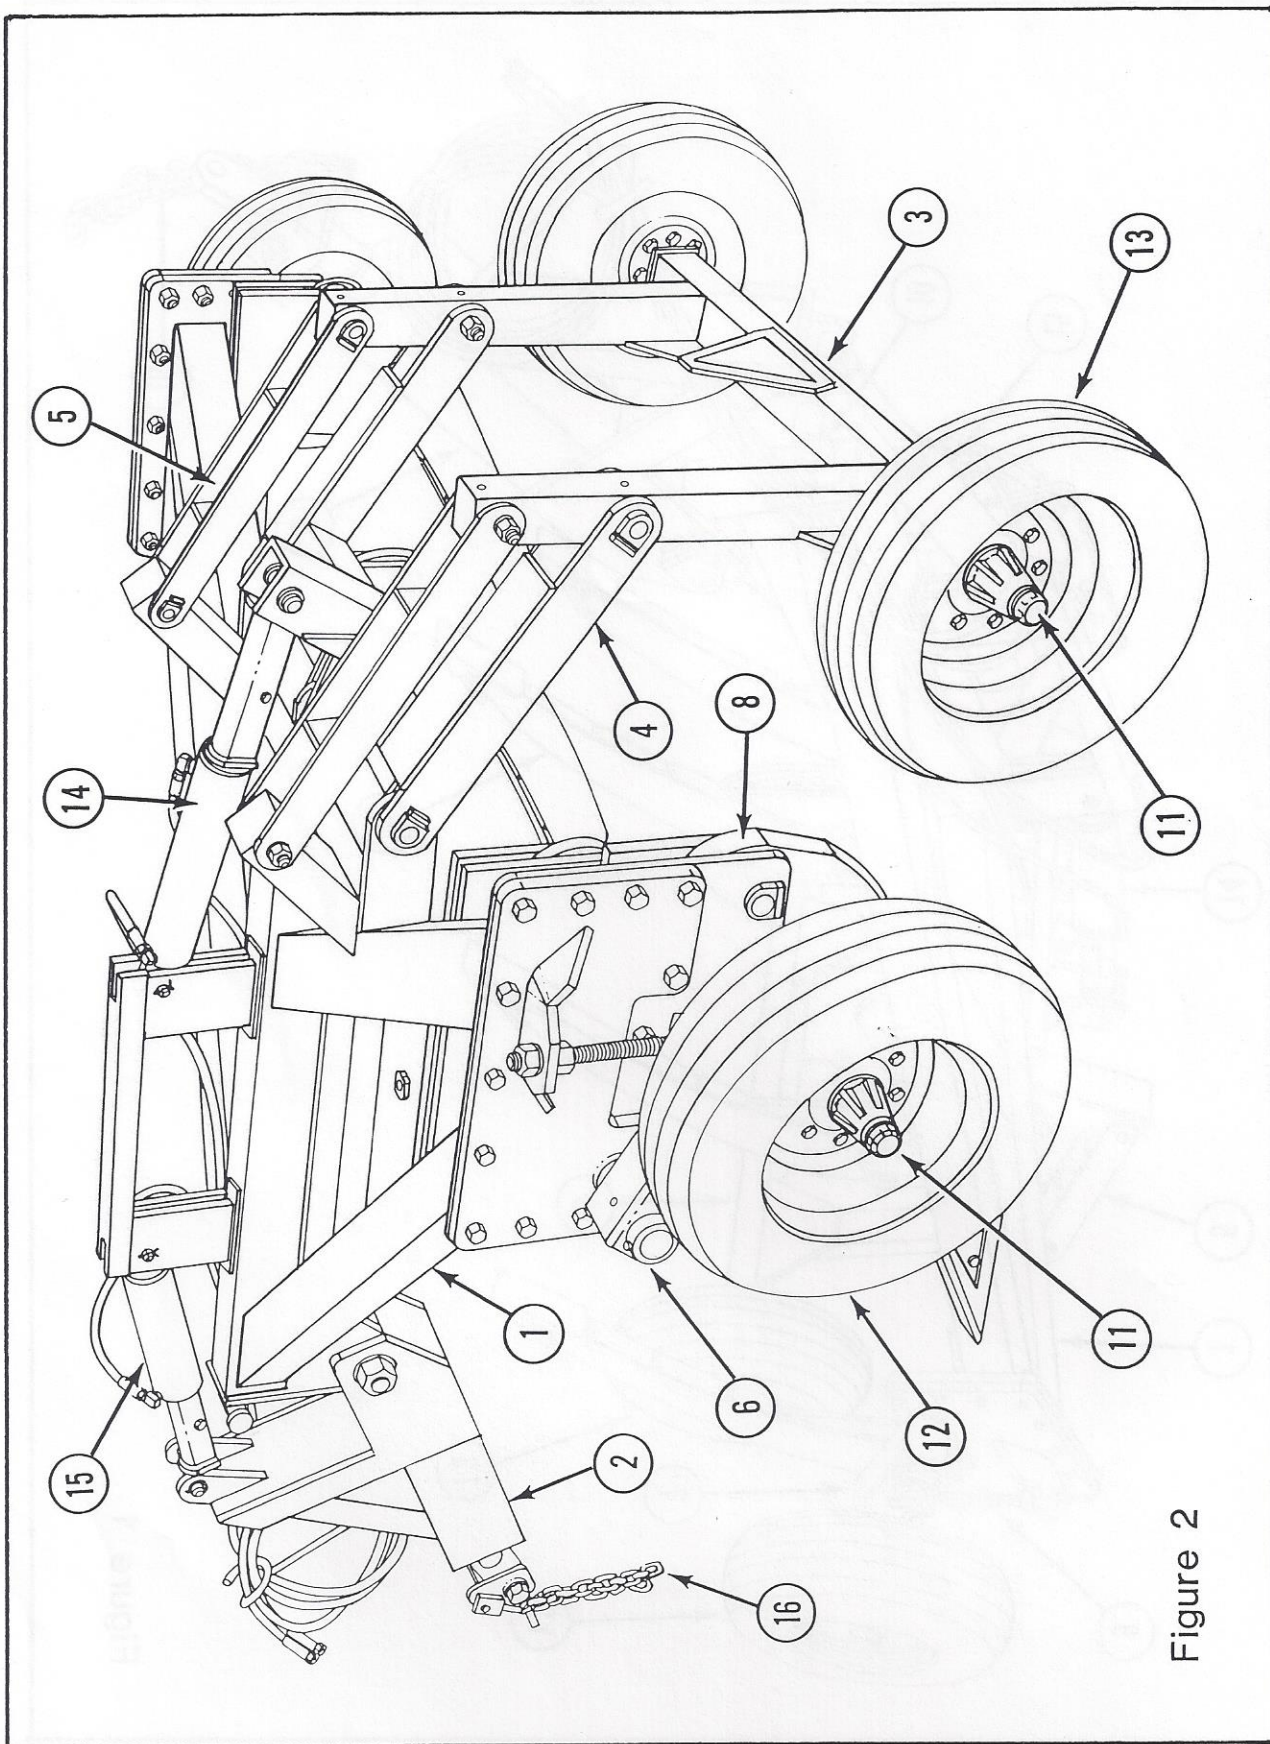

Figure 2
Attach the rod end of the drawbar cylinder to the cylinder bracket located at the top of the drawbar assembly and the base end to the front bracket on the centerframe. Secure both ends with cylinder pins and cotter keys provided. See fig. 2 and schematic I.
Connect the transport assembly to the brackets located at the rear of the centerframe. Use 1" x 5-1/2" threaded pins and self-locking hex nuts to attach the transport assembly to the left and the right outside brackets and a 1" x 4-1/2" threaded pin with self-locking hex nut for the center bracket. See fig. 2 and illustration B.
Use the 1" x 7.81" threaded pins and 1" self-locking hex nuts to attach the (2) two transport linkage assemblies to the transport mounting arms located at the top rear of the centerframe. See fig. 2 and illustrations A and B.
With the transport leg assembly in the upright position, connect both transport linkage assemblies to the top set of holes on each leg of the assembly . . . secure with 1" x 7.81" threaded pins and 1" self-locking hex nuts. Now, connect the attaching brackets located on the transport assembly to the bottom set of holes on each leg of the leg assembly with 1-1/4" x 8.12" threaded pins and 1-1/4" self-locking hex nuts. See fig. 2 and illustration B.
Insert spindles into round tubing of transport leg assembly and bolt into place with 1/2" x 6" hex bolts, lockwashers and nuts. Attach hub assemblies to spindles . . . secure with 1" slotted hex nuts and cotter keys (part of hub assembly). Mount wheels on hubs with (8) eight (lug) wheel bolts provided. See fig. 2 and illustration B. Be sure valve stem is on the outside of the wheel. Care should be taken to ensure the tapered rim bolt holes match the taper on the wheel bolts.
Attach the rod end of the 5 x 16 transport cylinder to the cylinder bracket located on the cross member of the transport assembly. Connect the base end to the cylinder bracket on the centerframe. Secure both ends with the cylinder pins and cotter keys provided. See fig. 2 and schematic I.
Attach right and left bolting plates to bolting shank mounting plates on each side of the centerframe. For each plate, use (3) three 1" x 2" hex bolts and (10) ten 1" x 3" hex bolts . . . all secured with (13) thirteen 1" self-locking hex nuts. See fig. 2 and illustration A for bolt placement.
Mount left and right gauge wheel arms on the wheel mount shafts located on the gauge wheel bolting plates (5 shank) or wing assemblies (7 shanks) and secure with wheel mount collars, 1/2" x 5" hex bolts, lockwashers and nuts. See fig. 2 and illustration A.
Insert spindle into each gauge wheel arm sleeve and bolt into place with 1/2" x 5" hex bolts, lockwashers and nuts. Attach hub assemblies to spindles . . . secure with 1" slotted hex nuts and cotter keys (part of hub assembly). Mount wheels on hubs with (8) eight (lug) wheel bolts provided. See fig. 2 and illustration A. Be sure valve stem is on the outside of the wheel. Care should be taken to ensure the tapered rim bolt holes match the taper on the wheel bolts.